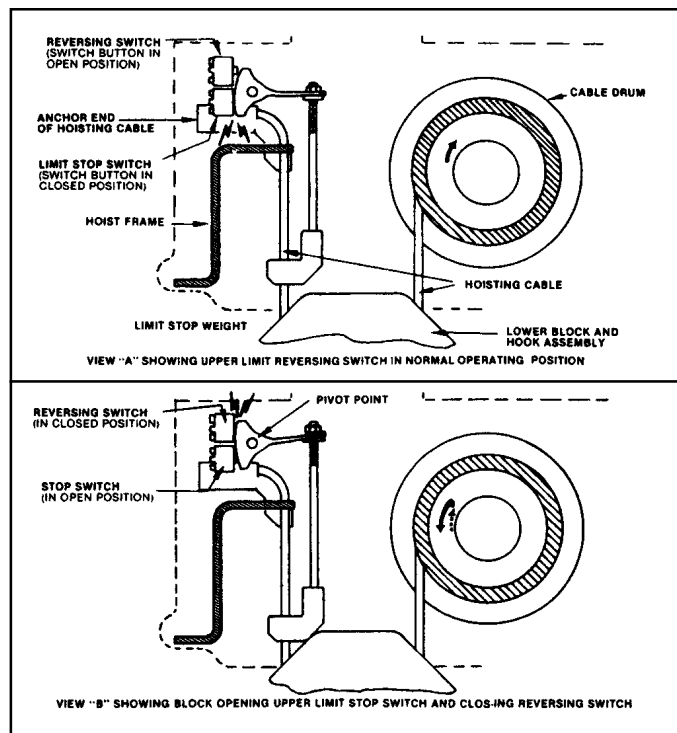

Figure 2-2. Schematic Diagrams of Upper Limit Stop Arrangement
- (1) A block operated upper limit stop (Figure 2-2) is furnished as standard equipment on most Series "700" electric hoists (some long lift and all deck mounted hoists have geared type limit switches as standard). This limit stop is factory set to stop lower block at safest high position, guarding against overtravel and possible damage to hoist. No adjustment can be made. However, the hoist should be tested by jogging lower block against limit weight (Figure 2-2) to be sure the limit switch is functioning properly. When lower block lifts limit weight, hoist will automatically stop. If lower block coasts through the stop limit switch when lifting at maximum height, in most SHAW-BOX hoists a reversing switch will automatically close and reverse direction of motion to lowering.